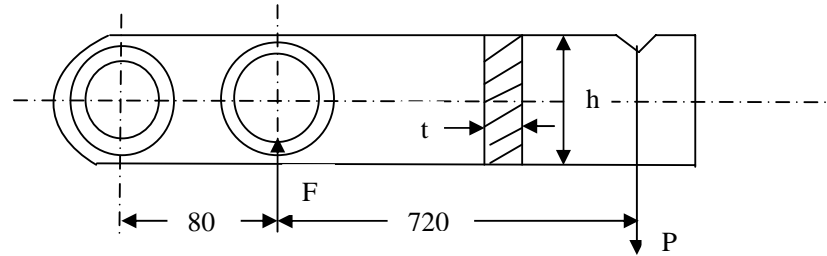

Fig. 4; Q. 4(a)
- Q.4 (a)** The lever of a lever loaded safety valve shown in Fig. 4. The diameter of the valve is 80 mm and valve has to blow off at a pressure of 1.25 MPa. The permissible stress in tension, shear and crushing are 70 MPa, 20 MPa and 50 MPa respectively. The permissible bearing pressure for the pin may be taken as 20 MPa. Design the pins and the lever; assume rectangular cross section of the lever with height equal to three times the thickness. **07**